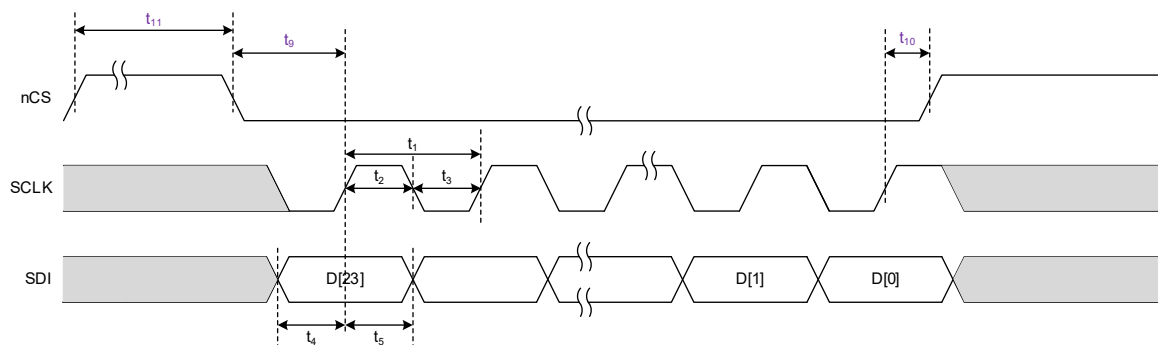
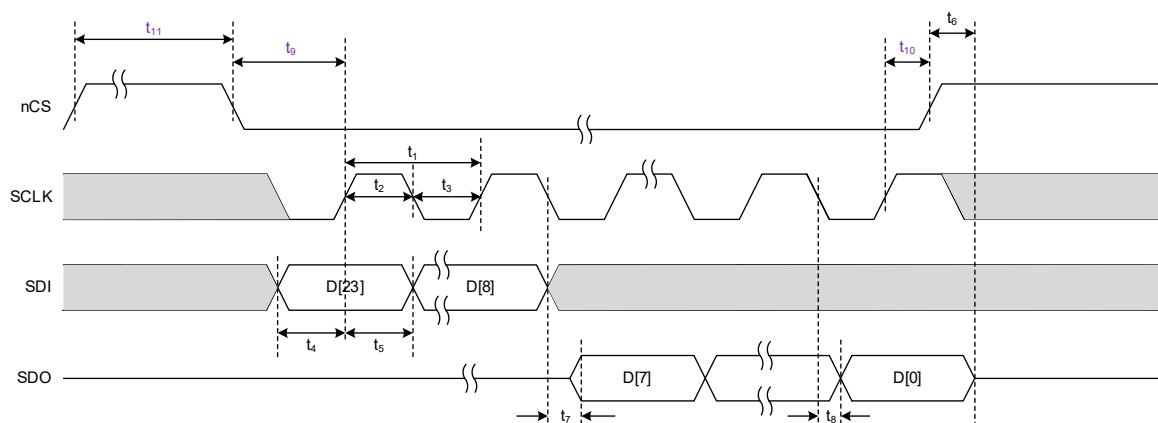

Figure 1. Serial Interface Write Timing Diagram
Figure 2. Serial Interface Read Timing Diagram
- See Figure 1 and Figure 2.
- See Figure 2.